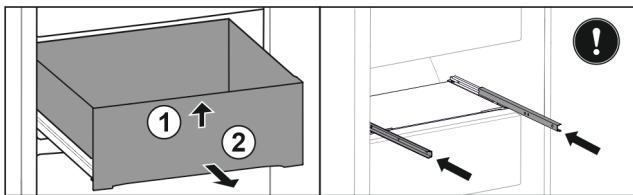

Fig. 116
- ▶ Lift up drawer at the front. Fig. 116 (1)
- ▶ Remove drawer to the front. Fig. 116 (2)